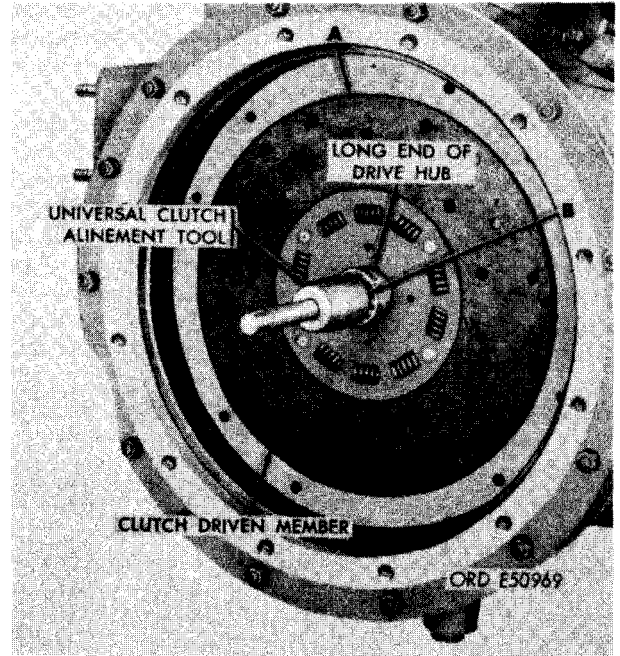
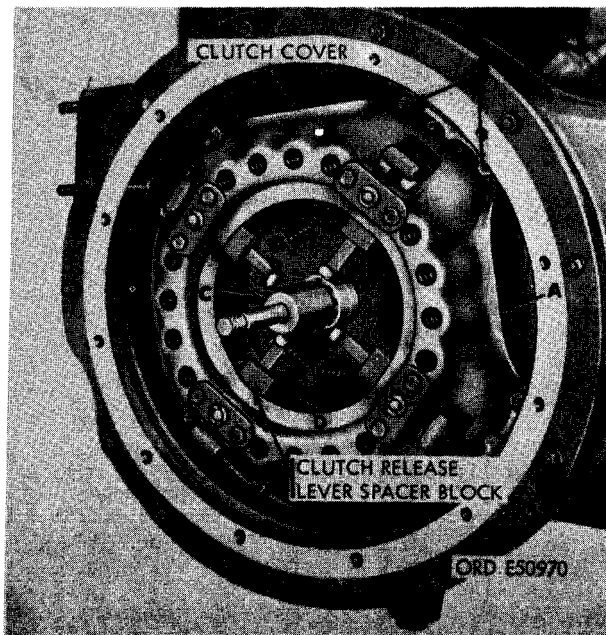

FIGURE 96. INSTALLING CLUTCH DRIVEN MEMBER ASSEMBLY USING UNIVERSAL ALINEMENT TOOL.
FIGURE 97. INSTALLING CLUTCH COVER ASSEMBLY.
- (1) Figure 96. (A) Position clutch driven member assembly against flywheel with long end of drive hub away from flywheel. (B) Aline splines of driven member hub with bushing-type pilot bearing bore using a universal clutch alinement tool. Do not remove alinement tool until clutch cover is installed (fig. 97).
- (2) Figure 97. (A) Position clutch cover assembly over driven member assembly and align screw holes. (B) Secure cover assembly to flywheel using eight 3/8 lock washers and 3/8 x 15/16 cap screws. Tighten cap screws to a torque of 275 to 325 pound inches. (C) Depress clutch release levers, one at a time, and remove four clutch release lever spacer blocks. (D) Remove clutch alignment tool.